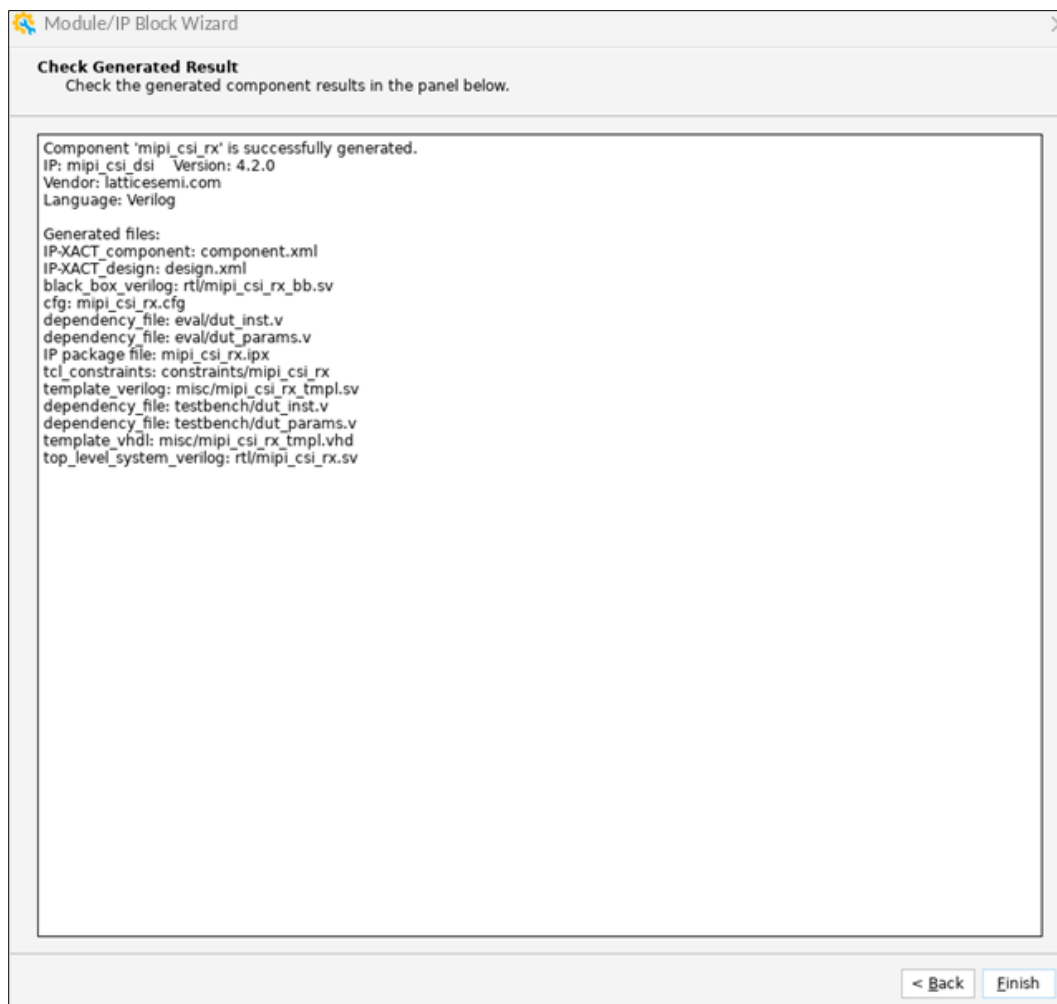

Figure 7.18. MIPI CSI/DSI IP Check Generated Result Window
4. After the generation is completed, click **Finish** in the **Check Generated Result** window (Figure 7.18).